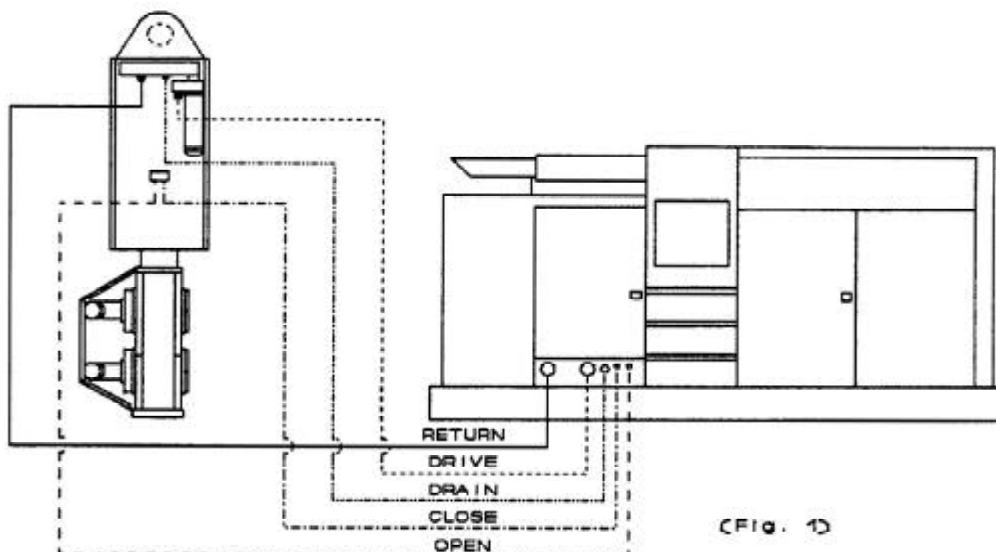

FIG. 1
- a. The vibrator and hydraulic clamp are connected to the power unit by five hydraulic hoses (Fig. 1).
- b. The hoses connect to the power unit with quick-disconnect couplers. The hose couplers are arranged to insure correct connections at the power unit. See the diagram (Fig. 1) below for correct hose connection.
- a. The vibrator is usually shipped with the hoses attached to the vibrator. If the hoses have been shipped separately, they must be connected in the field. Fig. 1 on the previous page shows the correct arrangement of the five hoses connecting the power unit to the vibrator.
- b. For clamp hose connections, refer to Fig. 2, on this page, as well as Fig. 1 on page II-3 for the correct arrangement. The caisson clamp which are most commonly used with the 1412B, should be connected using these illustrations as a guide. Hose clamp blocks are normally stamped "O" for Open and "C" for Close so that lines may be routed to the correct fittings.
(Fig. 1)
1. The control box (Fig. 1, page III-1) at the side of the power pack contains the controls and gages for the diesel engine, vibrator, and the OPERATION AND MAINTENANCE INSTRUCTIONS.